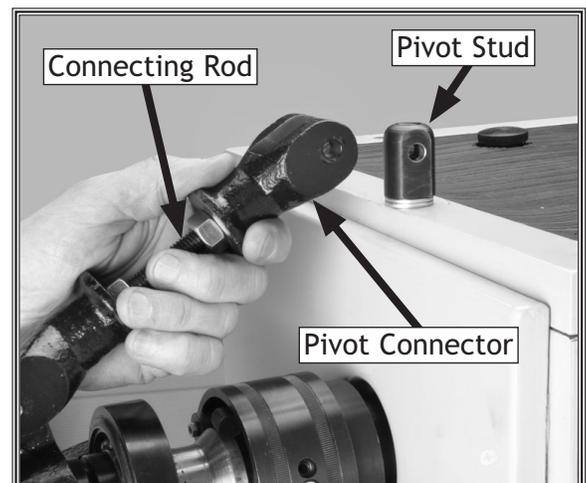

Figure 7. Pivot connector inserted over pivot stud.
4. Slide the pivot connector at the end of the connecting rod over the pivot stud, as shown in **Figure 7**. Insert the M8-1.25 x 45 cap screw through the hole in the pivot connector and pivot stud.